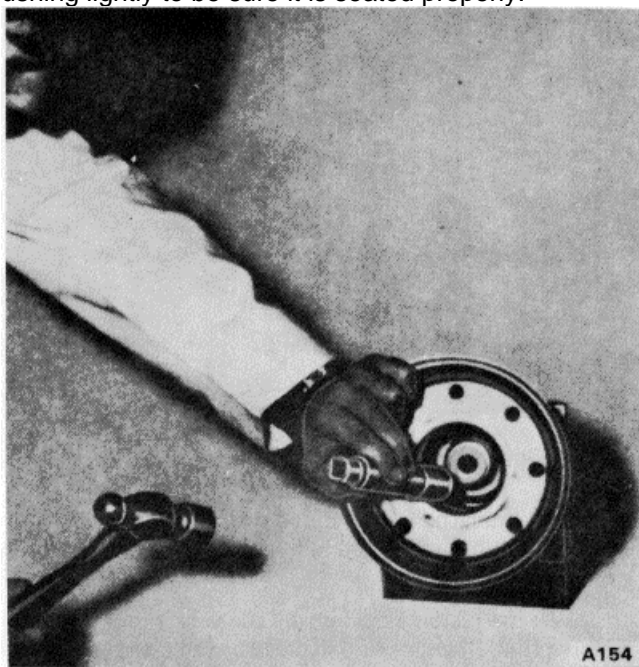

Figure 12D-12. Installing Push Rod Bushing
7. Assemble the spring retainer and push rod return spring on the push rod, and install the assembly through the push rod bushing and piston tube. Install the flange nut on the end of the push rod (see Figure 12D-13).